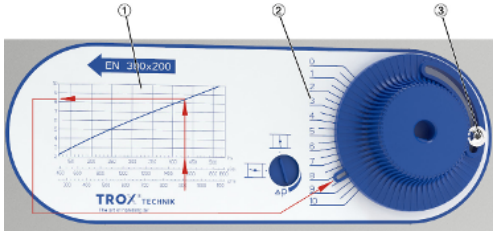

Fig. 11: Setting the volume flow rate
1. ▶ Using the volume flow rate scale (Fig. 11/1), determine the setting value (1-10) for the desired volume flow rate (l/s, m³/h, or cfm).
2. ▶ Loosen the hexagon socket screw (M5x12/size 3) (Fig. 11/3).
3. ▶ Set the rotary knob to the determined value of the setting scale (Fig. 11/2) and fix it with the hexagon socket screw (Fig. 11/3).